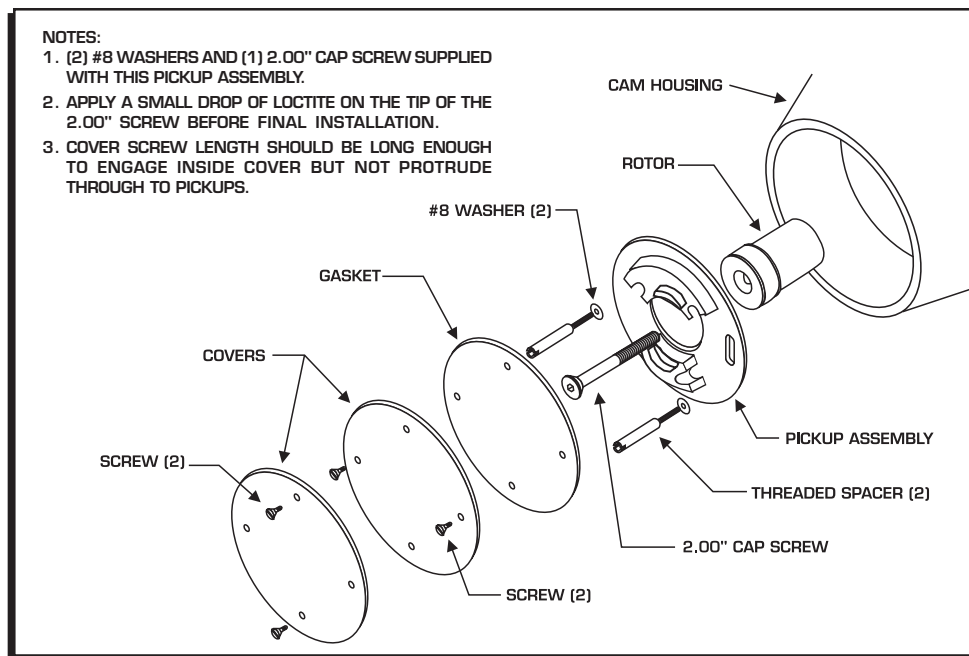

Figure 3 Installing the Pickup Plate Retainers.
4. Install the hold-down/standoff screws with flat washers until they are snug - do not tighten at this time (Figure 3).